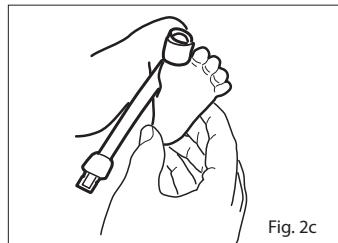

Fig. 2c
4. Refer to Fig. 2c. Ensure that the emitter window (*) aligns on the top of the toe directly opposite the detector. Verify correct positioning and reposition if necessary.